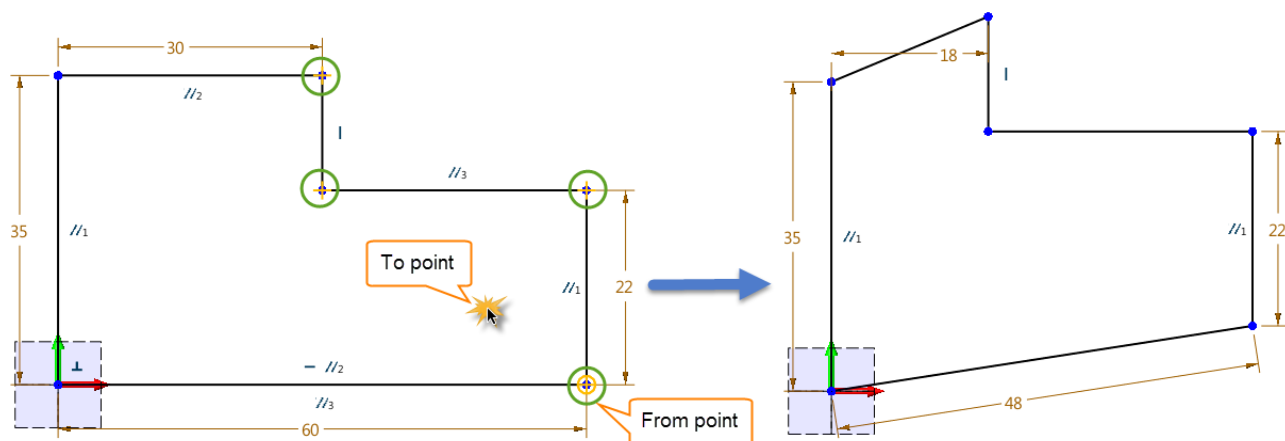

Figure 70 Stretch the Points
**STEP 01** Window pick the critical points to be stretched. See the Figure 70, four points are selected, which are marked in green circles.